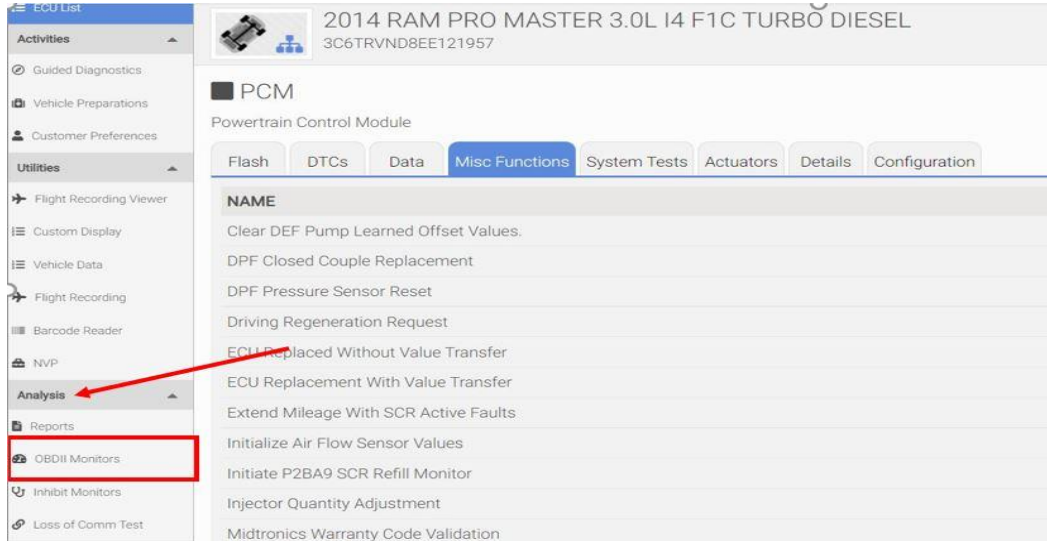

Figure 3.
11. Using wiTECH, Select "OBD II Monitors" under the "Analysis" section in the left menu. Please see (Figure 3.)